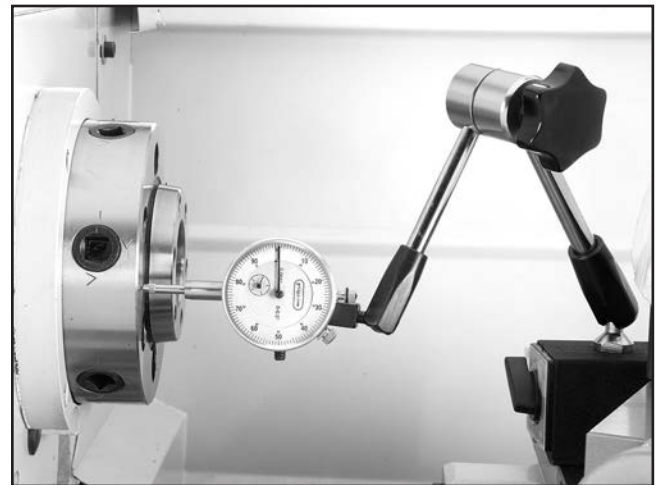

Figure 109. Dial indicator setup.
7. Place a dial indicator on the cross slide and move the carriage toward the headstock until the contact point of the indicator touches the spindle face (see **Figure 109**).